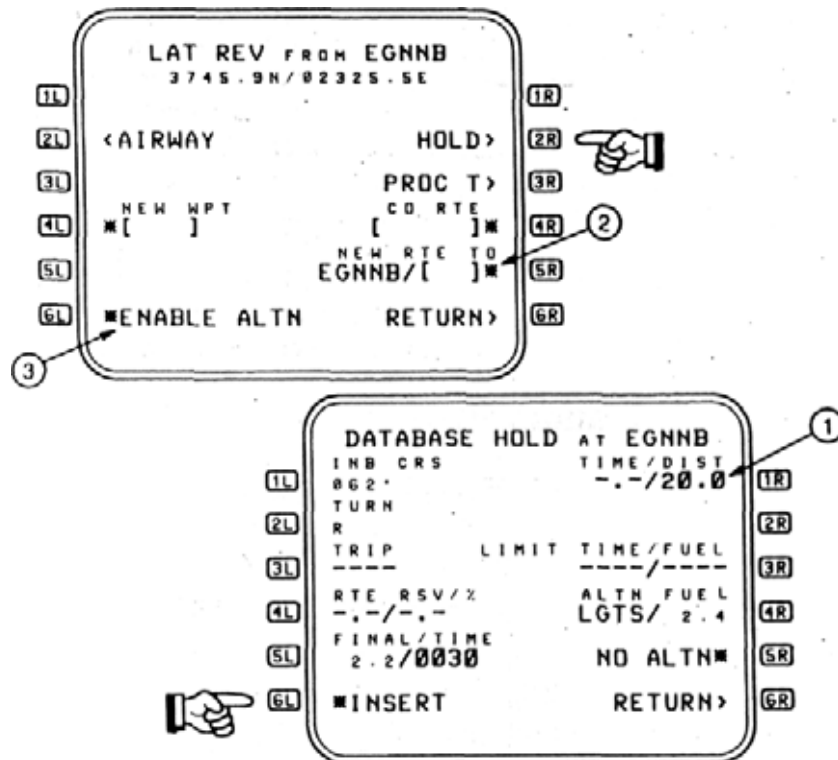

Figure 2-140
For example, 20NM legs have been requested and approved from ATC (1), Figure 2-140). Pressing LSK 6L, inserts the change into the flight plan. Notice also that the published hold for EGNNB is the 242 degree radial - INB CRS in the hold is 062 degree.
Referring back to Figure 2-140, (2), the NEW RTE TO field in data line 5R. The aircraft is presently holding at EGNNB. This field always reflects PPOS as the FROM point, therefore EGNNB/[] is displayed.
Referring back to Figure 2-140 , **(3)**, notice the prompt *ENABLE ALTN. This function is used to incorporate the alternate portion of the flight plan into the primary flight plan. See ENABLE ALTERNATE.